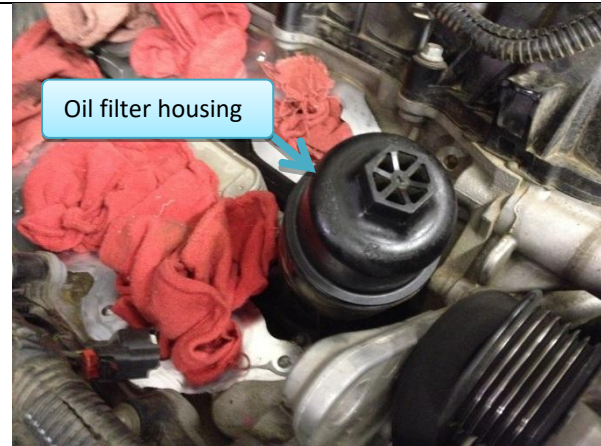

Figure 33: Oil filter housing.
- 19.1. Unscrew oil filter housing (Figure 33)